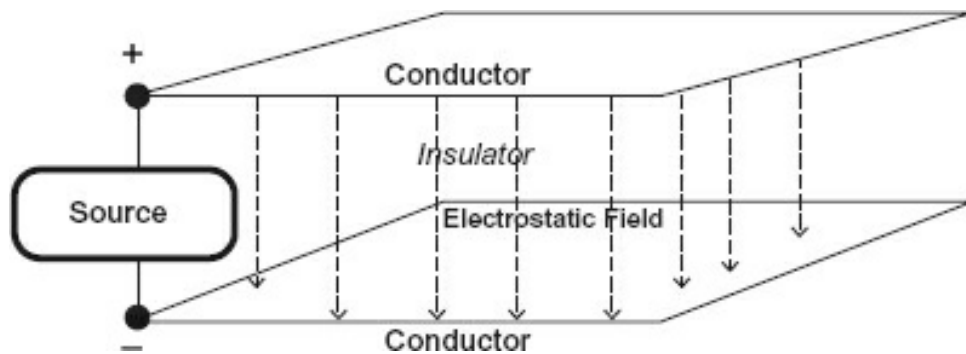
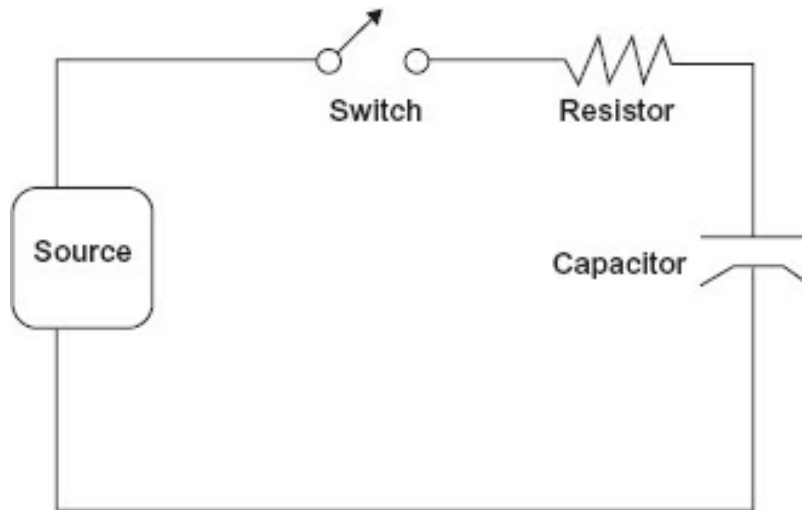
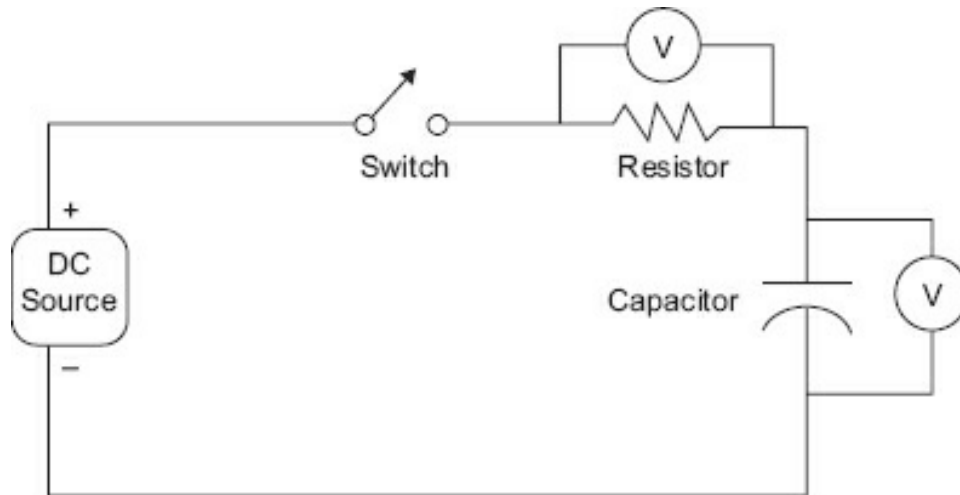

Figure 2-10. Electrostatic field.
Figure 2-11. Capacitor in circuit.
Figure 2-14. RC circuit.
There is a capacitance between any two conductors separated by an insulator. So almost all circuitry has capacitance. If there is a *difference in potential* between the two conductors, then there will be an electrostatic field between the two through the insulator. Figure 2-10 illustrates this concept.
So how did those charges get there? If the charges were in motion (energy was transferred), then work was performed. We can look at Figure 2-10 and intuitively understand that the source potential is going to be all along each conductor, so where and when was the work done? Look at Figure 2-11. It is a schematic of a source, a resistor (representing the resistance of the conductors), a capacitor, and a switch.
Connecting capacitors in parallel, as shown in Figure 2-14, results in increasing the area exposed to each conductor. Simple addition of the values will give the resulting capacity. Remember, the working voltage rating will be the lowest rating of any one of the capacitors.
Let us revisit the circuit in Figure 2-11, redrawn here as Figure 2-14.
The circuit in Figure 2-14 is called an *RC circuit* because it contains a resistor (R) and a capacitor (C). Assume the source at 10 VDC and that the switch has not been previously closed. The voltmeters will both read 0 V because no charges are in motion in the circuit. It does not provide a complete path for current flow. Assume the resistor is 1 megohm (M Ω ; 1,000,000 Ω) and the capacitor is 1 μ F. What happens when the switch is closed?